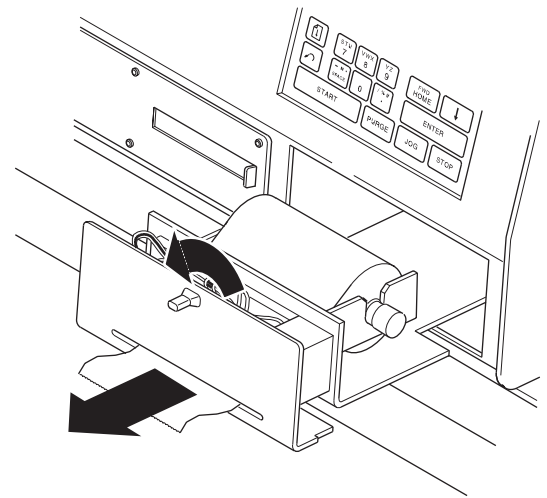

Figure 81 Opening the Data Recording Printer Drawer
2. Turn the latch counter-clockwise to release the data recording printer body from the case. Extend the data recording printer body from the power supply by pulling it forward. See Figure 81.